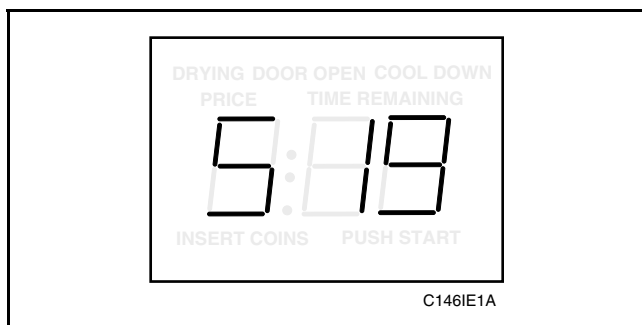

Figure 58
- While pressing and holding the HIGH TEMP pad with one hand, press the MED TEMP pad with the other hand. Programmable option number 1, (Audio Signal “SIg”), will appear in the VFD, *Figure 58*.